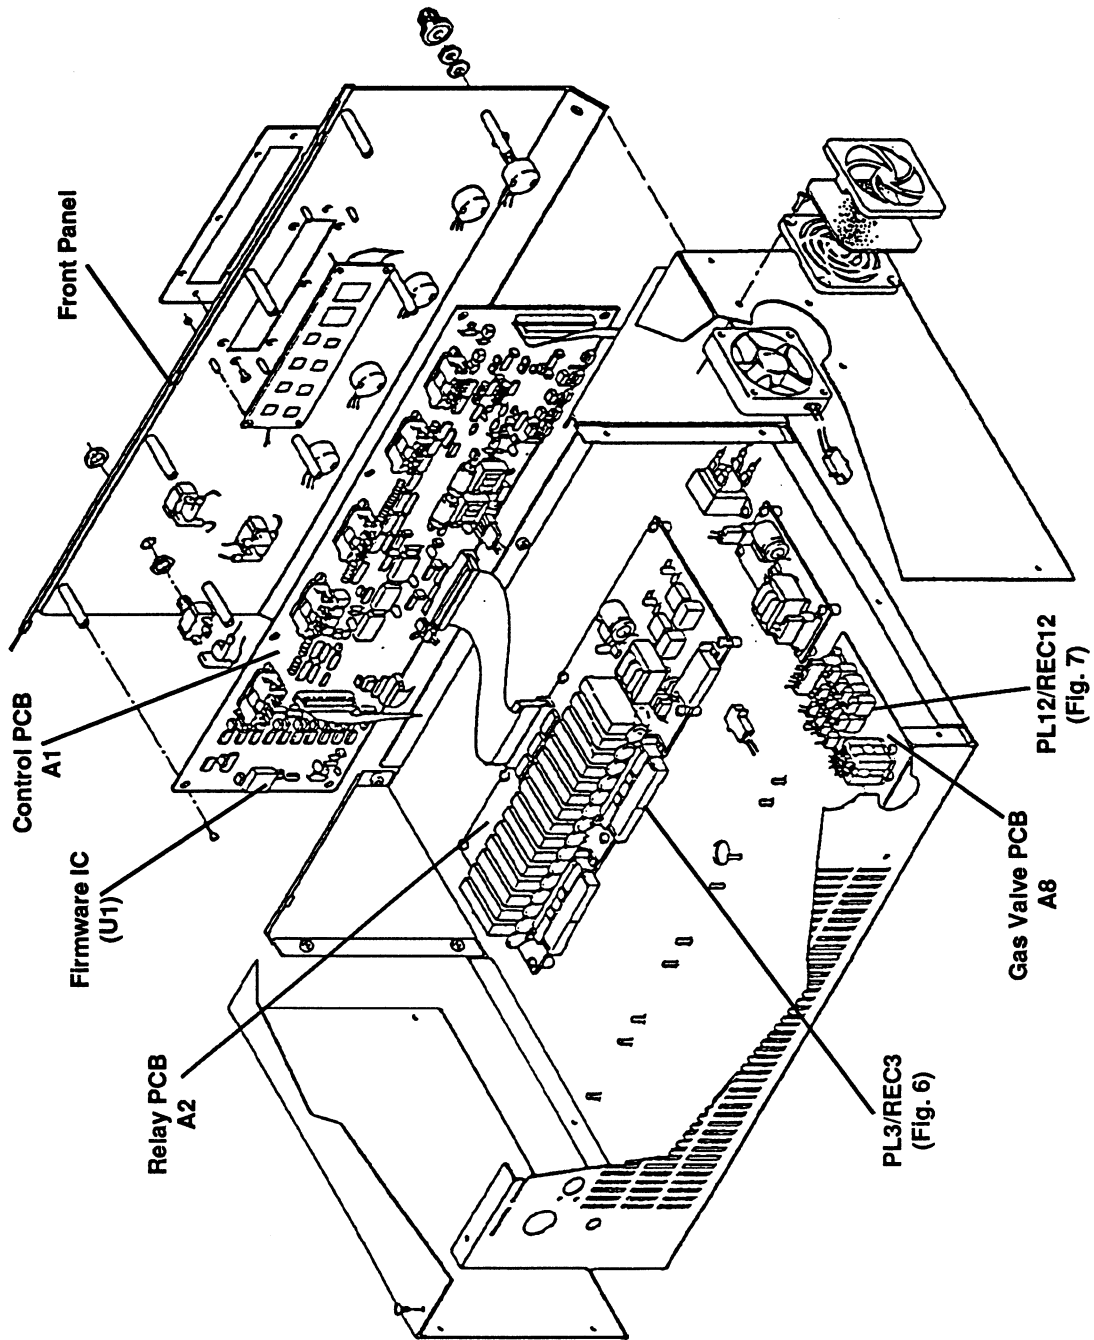

Figure 1 Automatic Gas Console Component Locations
1. At the automatic gas console, remove the front panel by removing the five screws (Fig. 1).
1. At relay PCB A2, locate plug/receptacle PL3/REC3 (Fig. 1).
4. Route the other end of the wiring harness to gas valve PCB A8 (Fig. 1).